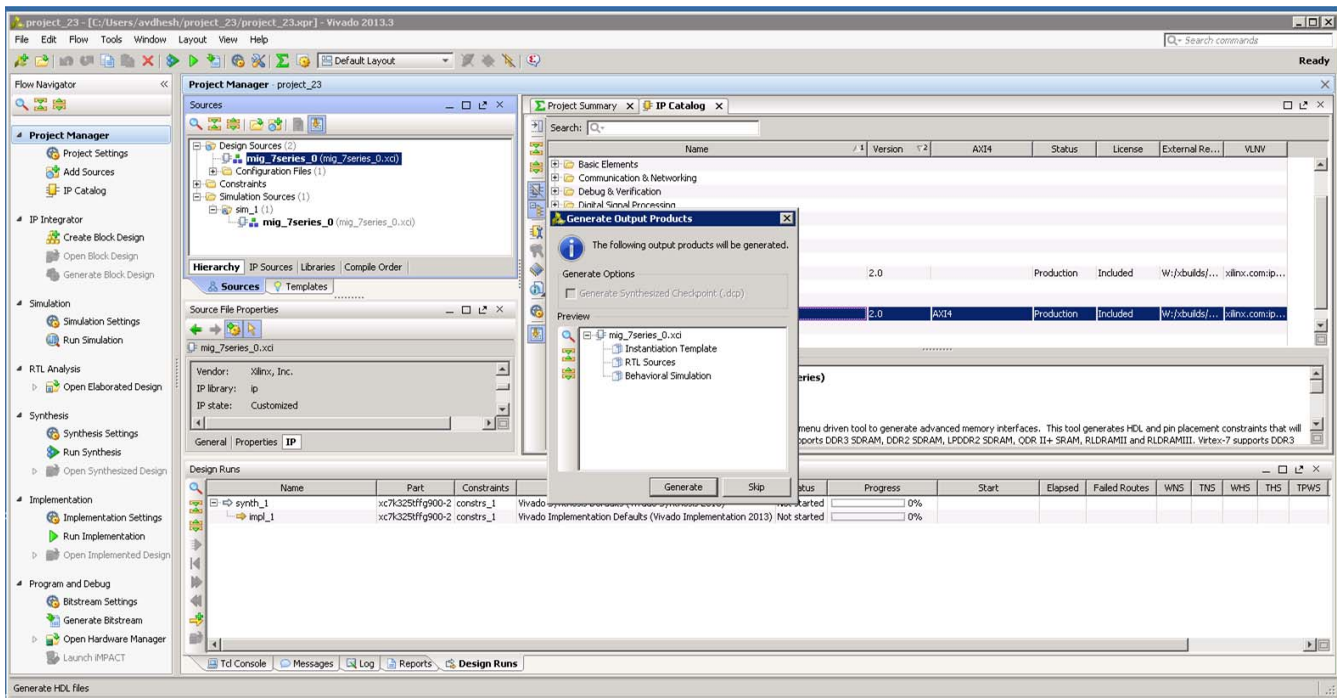

Figure 3-30: Generate Window
7. Clicking **Generate Output Products** option brings up the **Manage Outputs** window (Figure 3-30).